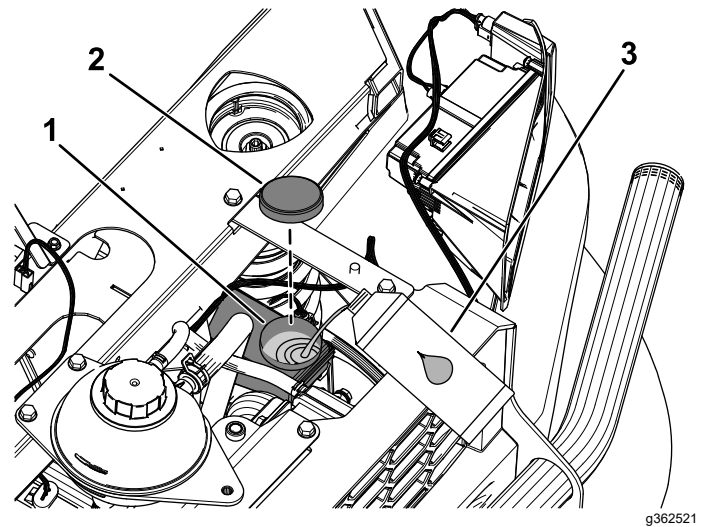

Figure 109
4. Raise the hood to access to the master brake cylinder and reservoir (Figure 109).
- A. Clean the area around the reservoir cap and remove the cap (Figure 109).
- C. Install the reservoir cap (Figure 109).